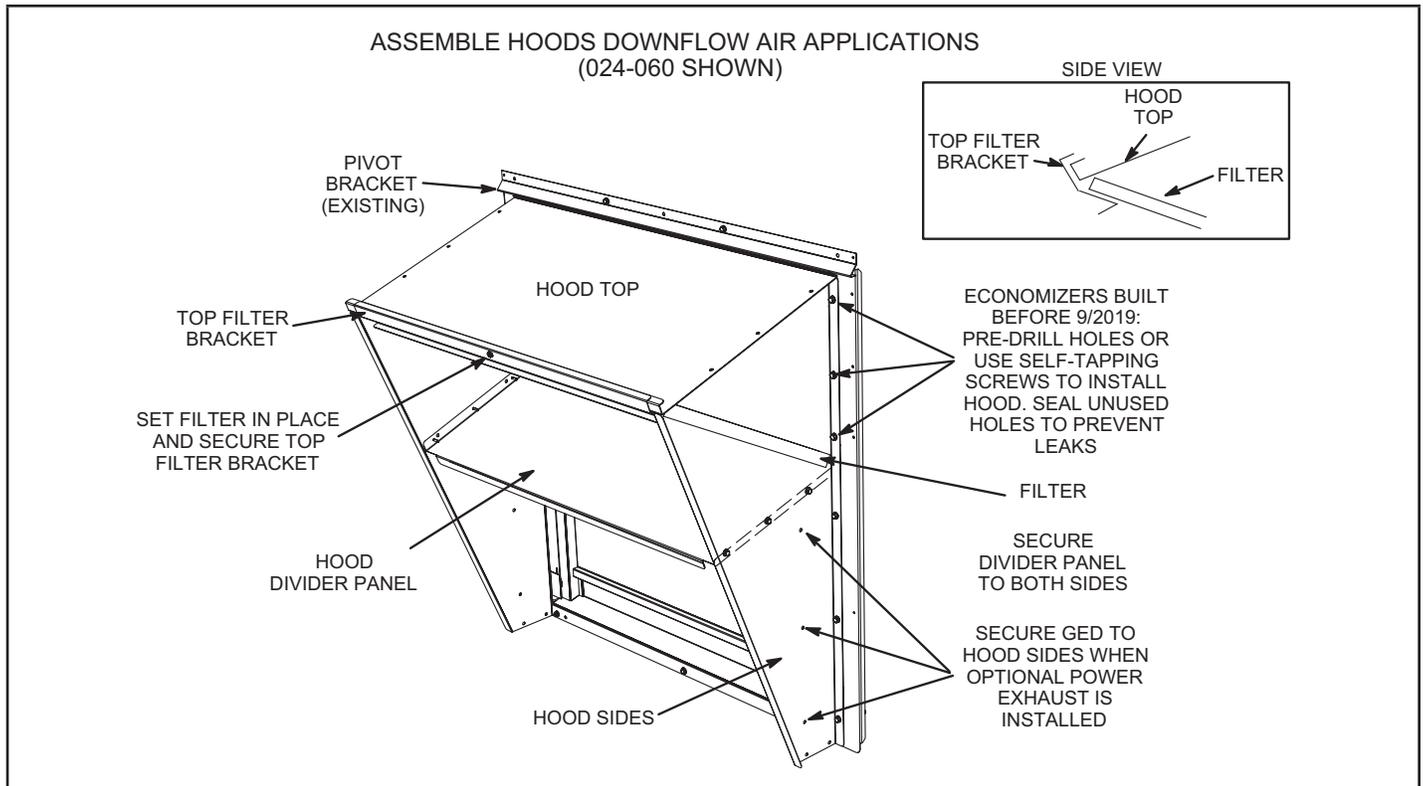

FIGURE 1
- 1 - Assemble hood as shown in FIGURE 1. Slide top of hood into the ends of pivot bracket (reuse existing bracket).